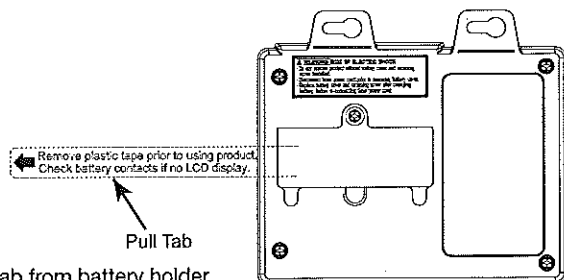

Figure 2
1. On the back of timer, pull out the pull tab (if present) from the battery holder. See Figure 2.